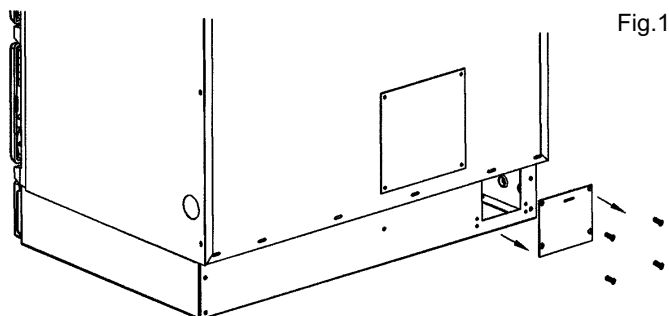

Fig.1
- (a) Remove the cover plate from the Air inlet back panel by removing the fixing screws. (Fig. 1).